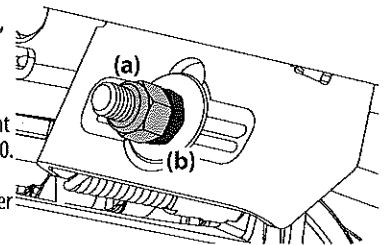

Figure 40
5. To raise the front of the deck, remove the end cap, loosen the outer jam nut (a) then tighten (thread inward) the inner nut (b) against the front hanger bracket. See Figure 40. When proper adjustment is achieved, re-tighten the outer jam nut (a) and replace the end cap.
6. To lower the front of the deck, remove the end cap, loosen the outer jam nut (a) then loosen (thread outward) the inner nut (b), away from the front hanger bracket. See Figure 40. When proper adjustment is achieved, re-tighten the outer jam nut (a) to 57 ft-lbs. (77.28 N-m) and replace the end cap.